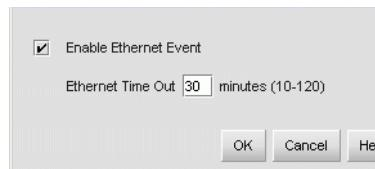

Figure 25: Configure Ethernet Events dialog box
2. At the HAFM or EWS main window, select the **Monitor > Ethernet Event**. The Configure Ethernet Events dialog box displays (Figure 25).